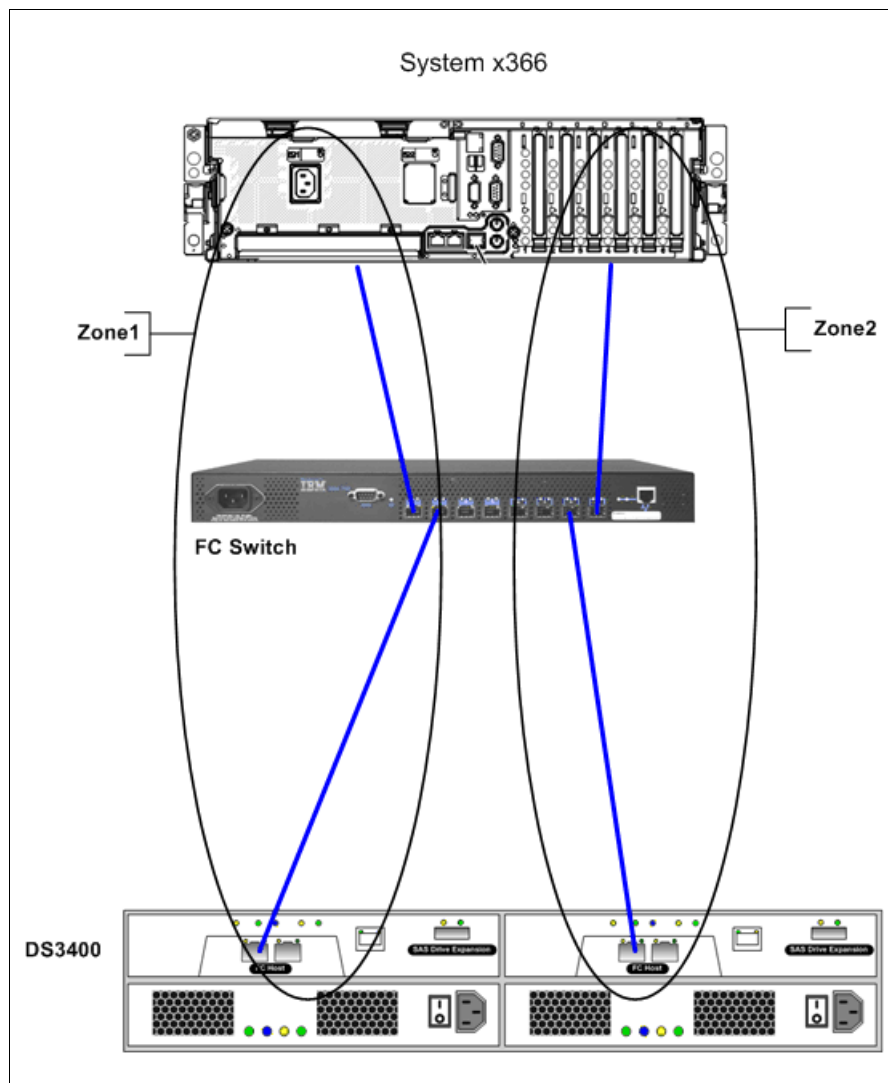
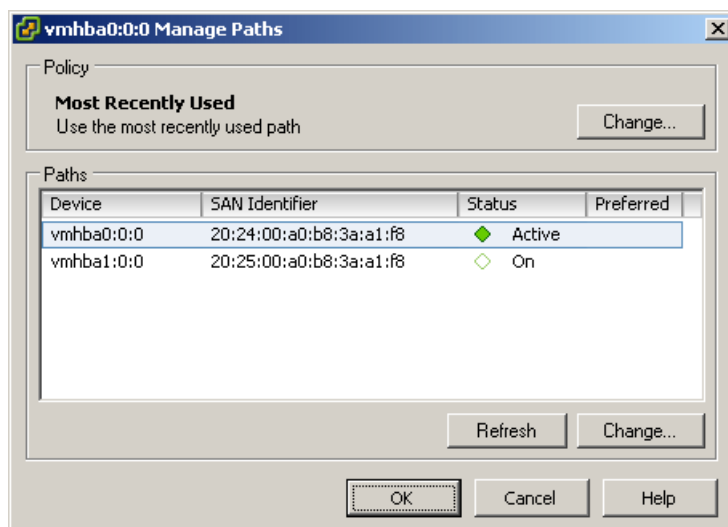

Figure 28-1 Zoning
Figure 28-11 Manage Paths
Unlike other operating systems, the ESX Server loads its multipathing driver during the installation. See Figure 28-1 for an example configuration with two paths to the DS3400 with the appropriate zoning.
Configure zoning on the FC SAN switch, as shown in Figure 28-1 on page 713. Refer to the vendor specific SAN switch guide for detailed instructions on SAN zoning.
6. In the window shown in Figure 28-11, all paths to the specific storage are shown. The Device field displays your HBA and the SAN Identifier your corresponding Controller on the DS3400. Make sure that the failover policy is set to **Most Recently Used**. This is the default and should be chosen for the DS3400 storage subsystem.
In this section, we simulate a controller failure and discuss how the ESX Server does the failover to the other path. As seen in Figure 28-11, the active and preferred path is Zone1, as shown in Figure 28-1 on page 713. This is the normal and expected situation.